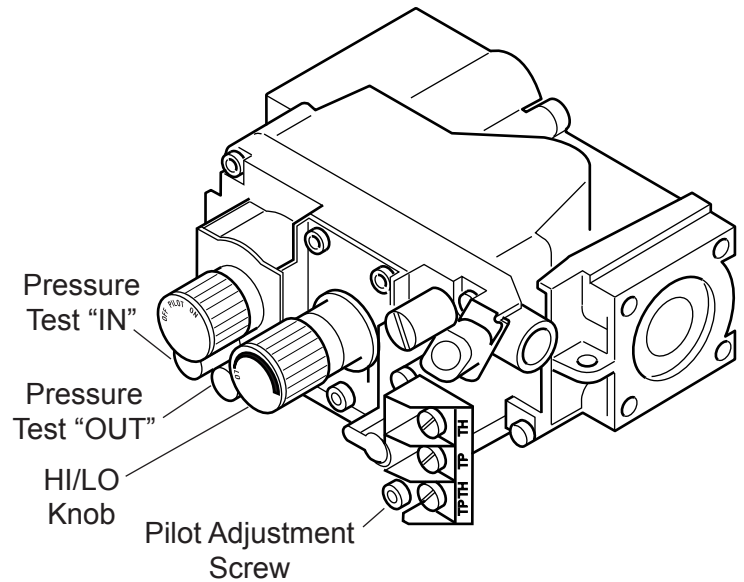

Figure 33 - Gas Pressure Check at Gas Valve
5. To check gas pressures at valve, turn captured screw counter clockwise 2 or 3 turns and then place tubing to pressure gauge over test point. Turn unit to high. *See Figure 33.* After taking pressure reading, be sure and turn captured screw clockwise firmly to reseal. Do not over torque. Check test points for gas leaks with a soap and water solution.